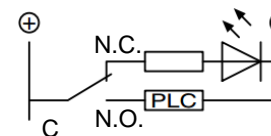

Figure 3
- Light assembly for 24 VDC has 3mA of current leakage. Be aware that PLC may operate due to this current leakage. TO avoid this from occurring, connect the LED directly to a 24V power supply as shown in wiring diagram 'Figure 3'.